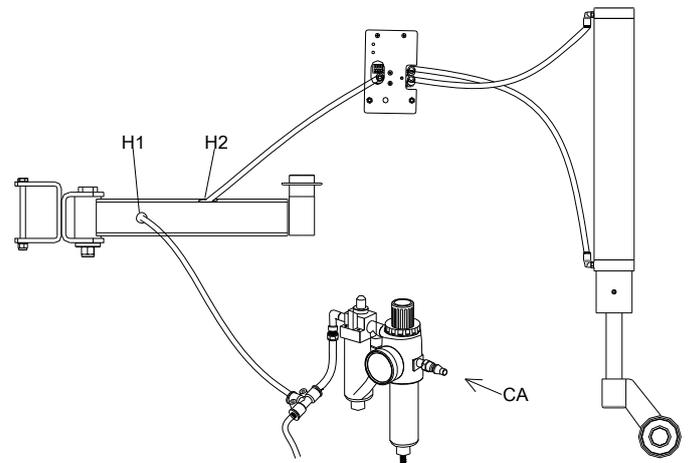

Fig 5
- 7) Cut the outlet hose of the oil-fog make in a suitable position, connect the hose with quick insert T-union , and connect the hose to the control valve through hole H1and hole H2, then connect the control valve and the complete help arm cylinder with the hose, shown as fig 5.